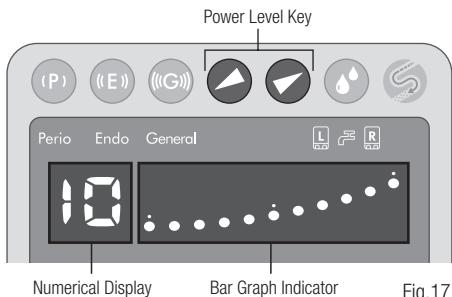

Fig.17
- 2) Set the power level with the Power Level Key on the Front Panel. The Bar Graph Indicator and Numerical Display will indicate the selected power level. (Fig. 17)